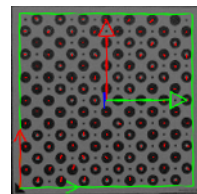

Figure 32: Recalibration target in NxView
- ✓ The image of the target in NxView will show lines and arrows in green and red. The red lines in the circles can vary in length, see figure 32.